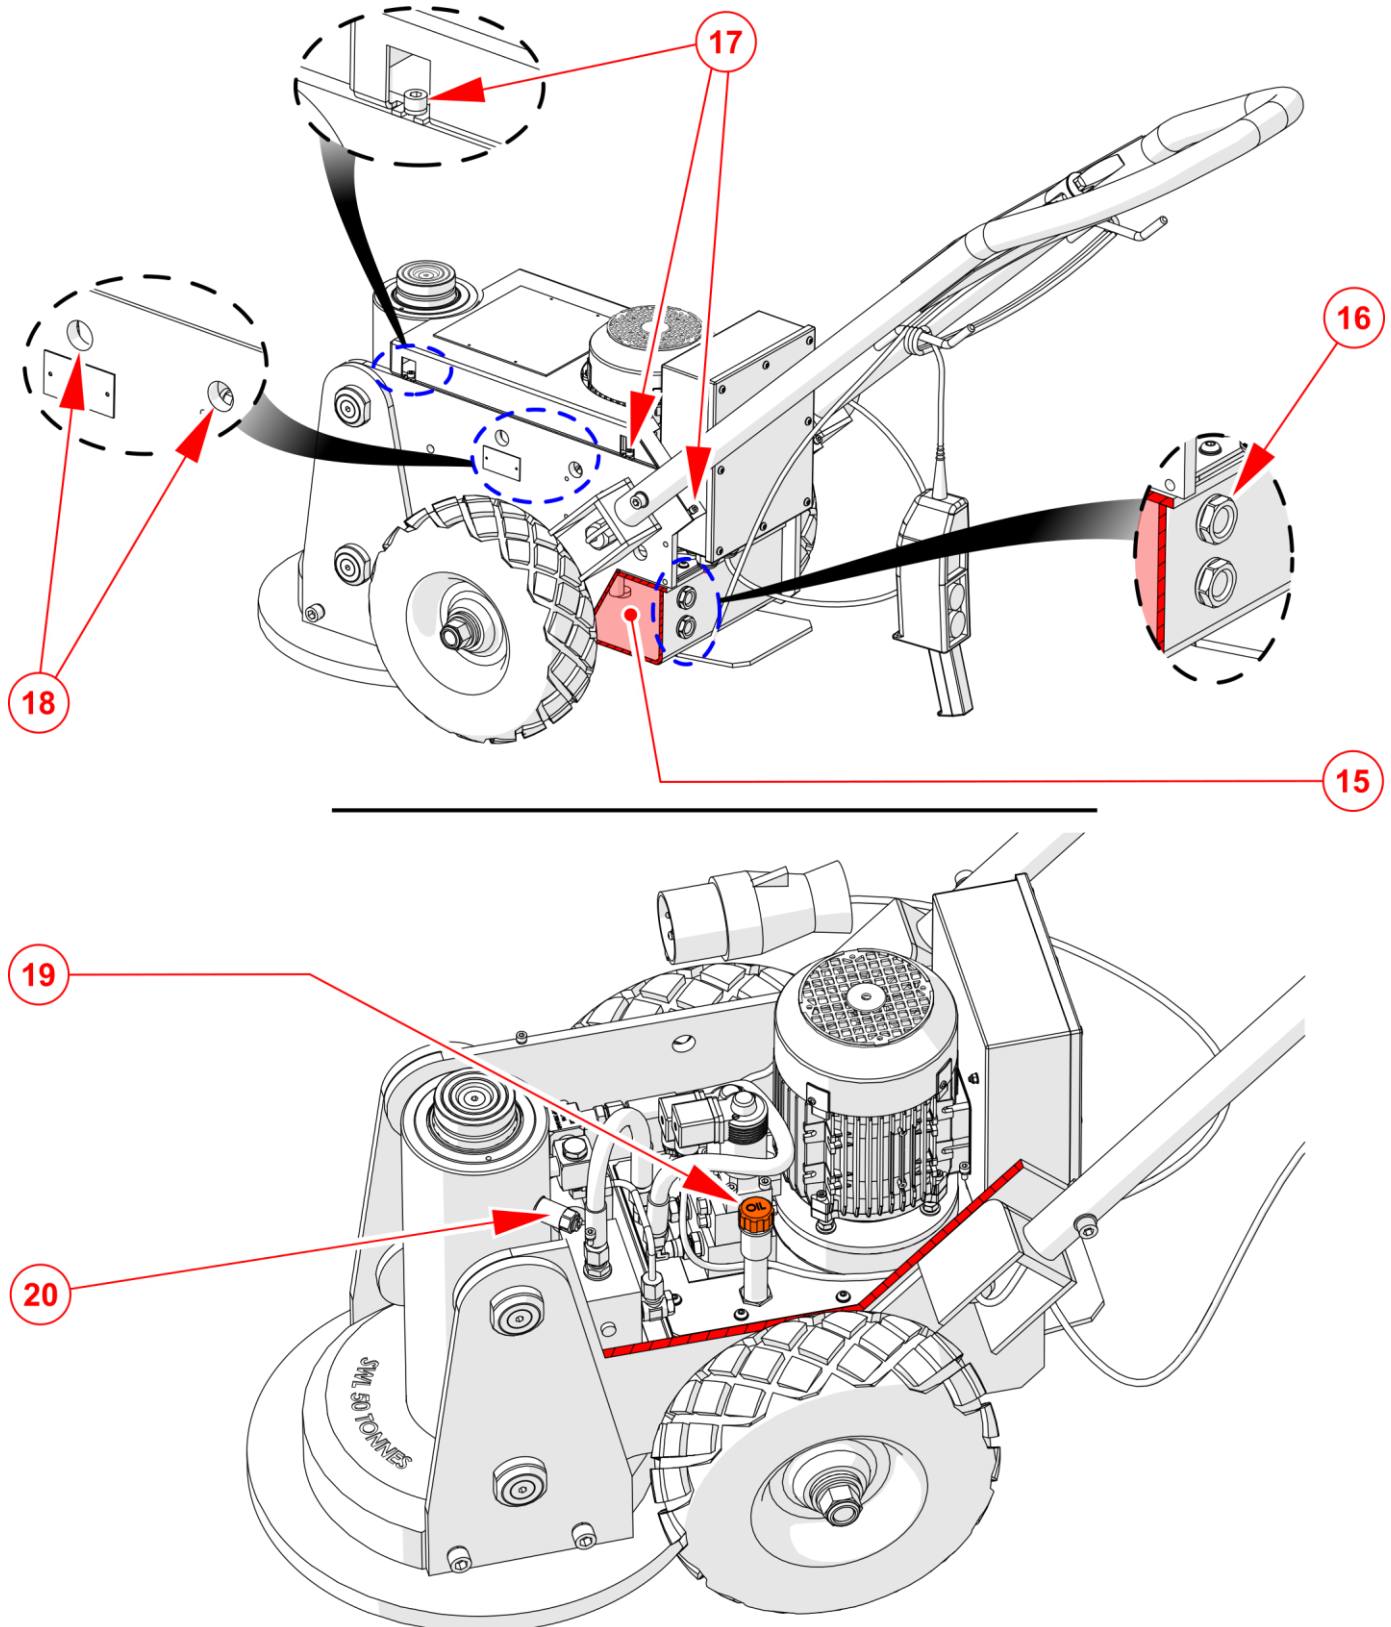

Figure 4.3: Component Identification
- Open the Top Cover (12), by removing the 6 Cap Screws (17) holding the cover in place. (See figure 4.3 Item 17 for screw locations)
- Remove the filler cap (19) from the filler breather.
- Fill the reservoir with clean, high-quality ISO46 hydraulic oil via the filler breather until the oil level reaches the centre of the upper oil level gauge sight-glass (16).
- Replace the filler cap (19) on the filler breather.
- Replace the Top Cover (12) and 6 Cap Screws (17). **DO NOT** operate the ToughLift without the Top Cover securely in place.